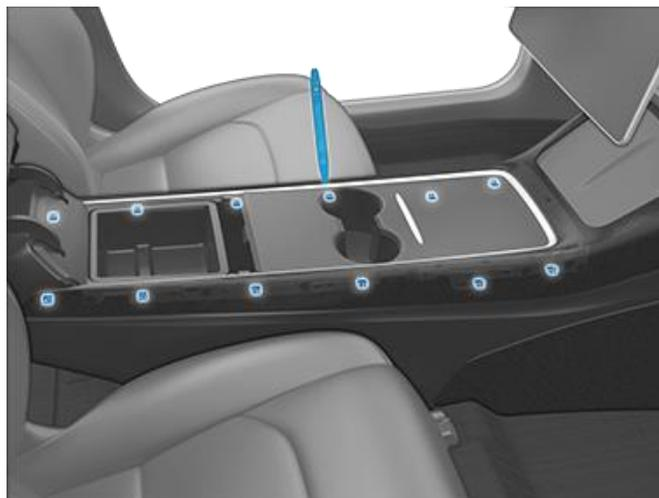

Figure 2
3. On both sides of the center console, use a trim tool to release the rear clips that attach the center console décor trim to the center console (Figure 2).
5. Engage the clips that attach the front of the center console décor trim to the center console (Figure 3) and then engage the clips that attach the rear of the center console décor trim to both sides of the center console (Figure 2).